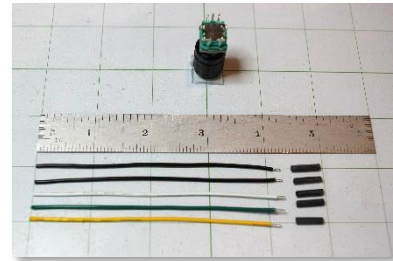

Figure 2a
Let's start with the Rotary Encoder, initially cut each wire to four-inch lengths, they will be cut shorter as required in later steps. So cut (5) 4-inch 22 AWG gauge wires. If possible, use 2 blacks, 1 white, 1 green and 1 yellow as this will make it easier to connect later (figure 2a). Also, pre-solder the ends of each wire to make the next steps easier.